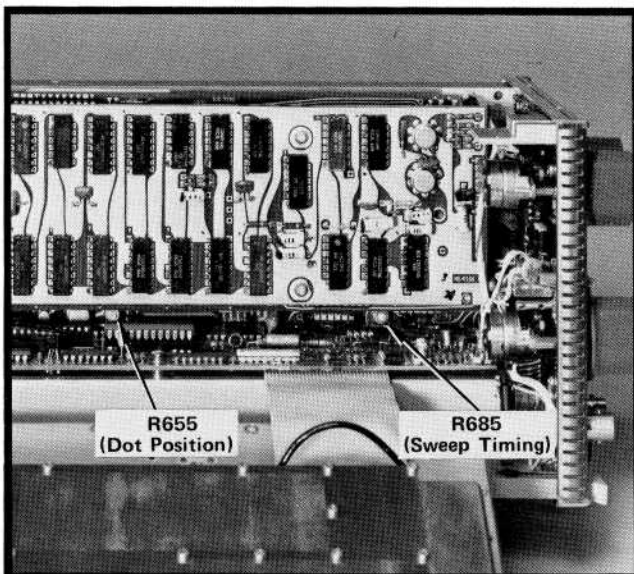

Fig. 4-7. Location of Dot Position and Sweep Timing adjustments and test points.
d. Set the FREQUENCY SPAN/DIV to MAX. Adjust the Max Span Dot Position with R655 (Fig. 4-7) to center the marker dot on the graticule.
c. Position the display with the HORIZ POSITION control and adjust R685 (Fig. 4-7) for 1 marker/division.